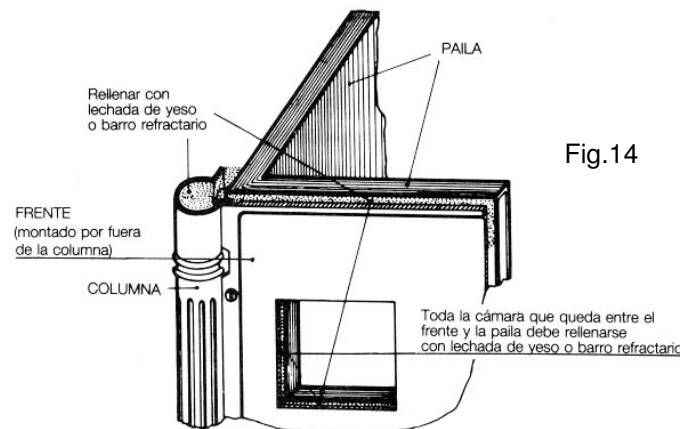

Fig.14
- 3º Seal the chamber between the boiler and the front with plaster or refractory putty (Fig. 14).